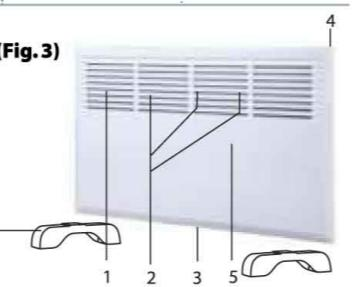

Fig. 3
4. Description of the convector (Fig.3)